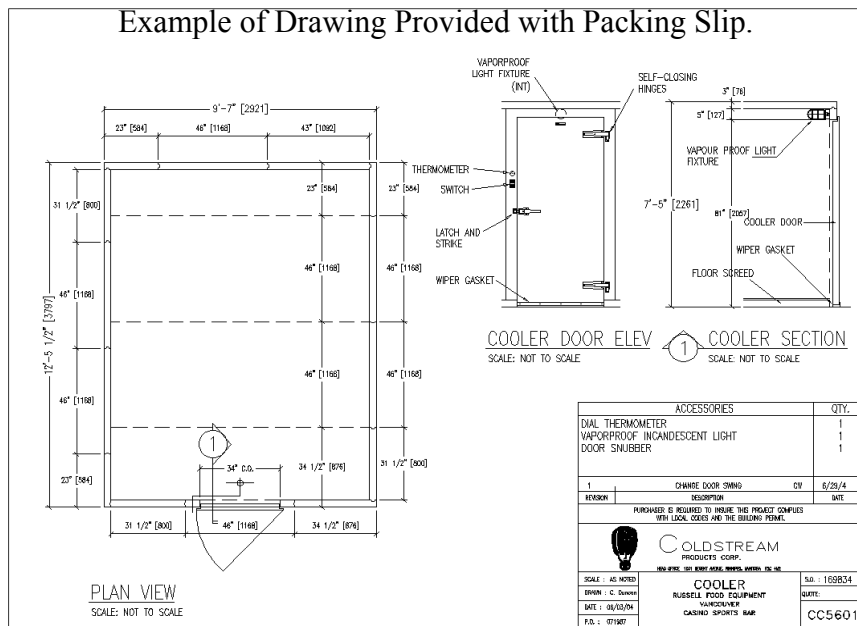

Fig.2
2. Miter and cut floor screed to proper lengths as shown in the drawing provided in your packing slip.(Fig.2)
2. Working in a clockwise direction you should be able to erect one wall without clamping. (Be sure that the panels are placed exactly how provided drawing Fig.2 describes.)